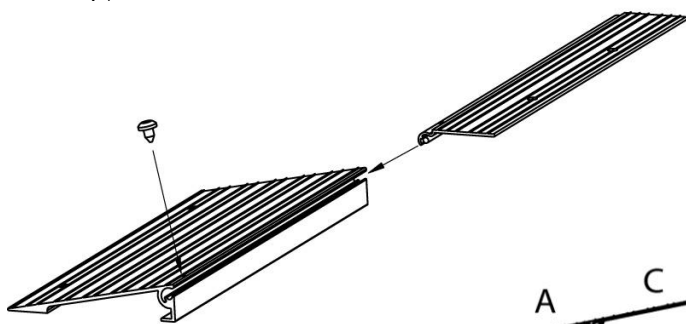

FIG. 1
1. Slide sections together starting with the foot (A) until the hole and slot line up. Install #6 screw and tighten (FIG. 1). Continue installing extensions until desired height is reached. Install the flap (H), if used, in the uppermost extension.